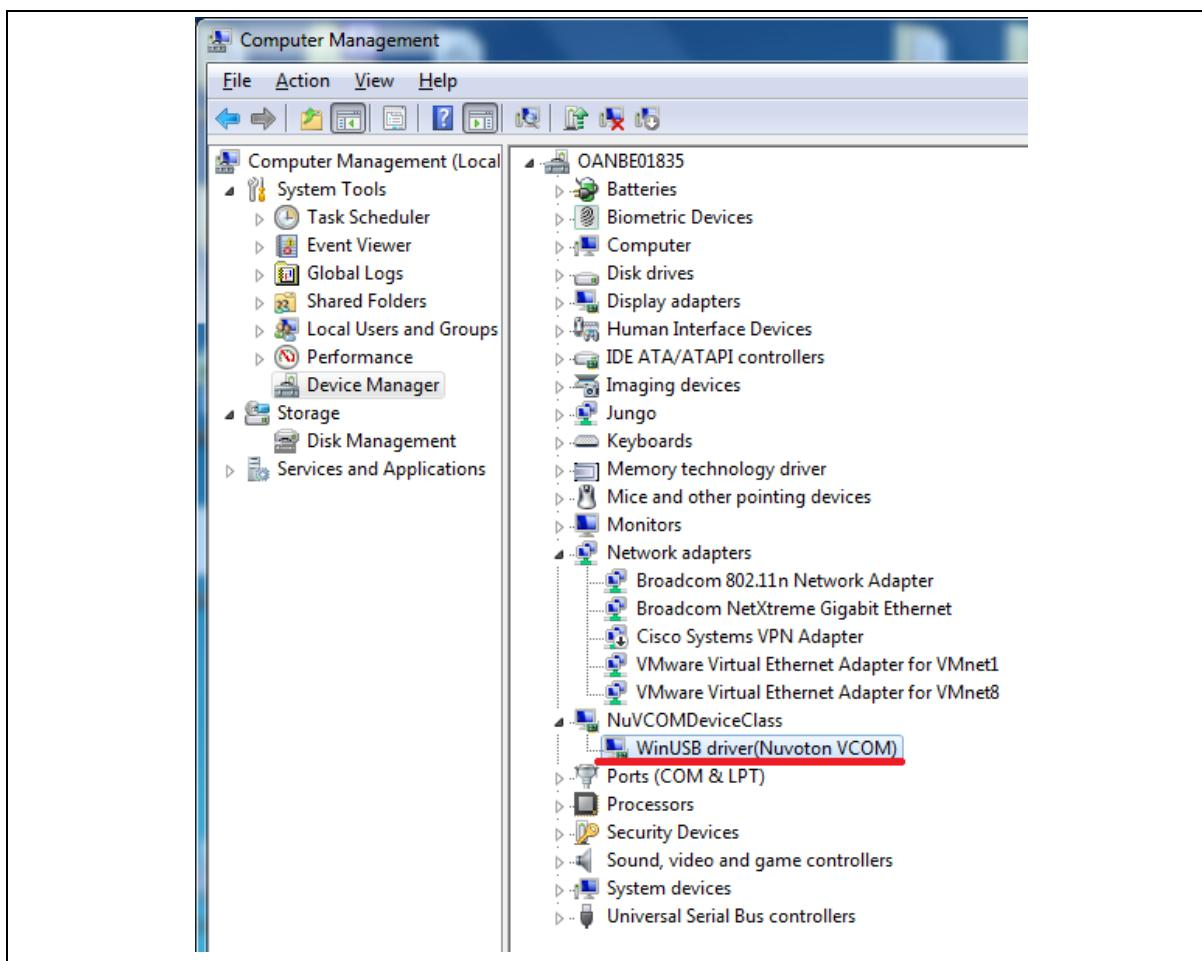

Figure 4-11 Device Manger(2)
4. Find the “WinUSB driver (Nuvoton VCOM)” on the Device Manger as Figure 4-11.